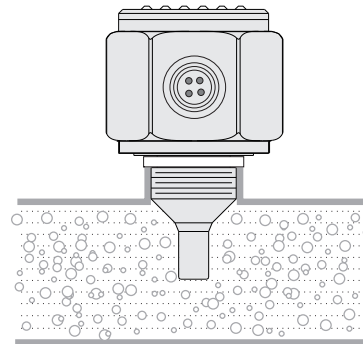

Fig. 2
3. The pipe is bubble free for proper functioning. (Fig. 2)